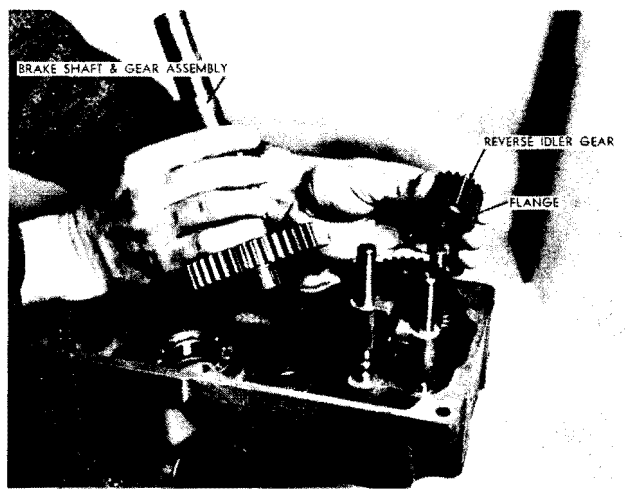

FIGURE 6
12. Remove the brake shaft gear assembly and the reverse idler gear. See Figure 6.